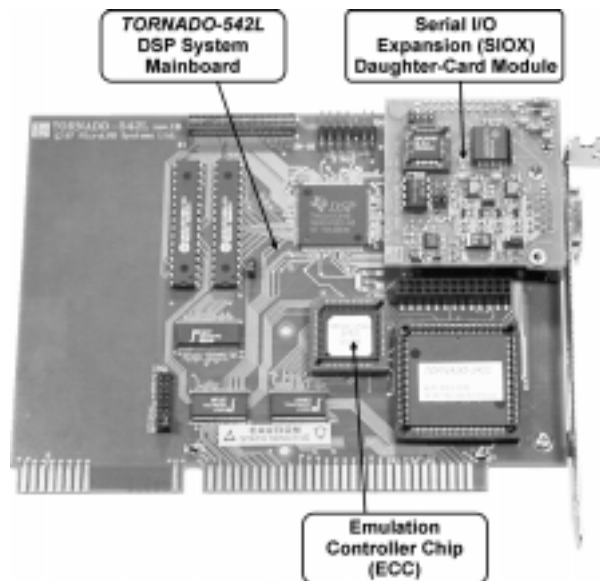

Fig.1-1.a. TORNADO-542L DSP system board with SIOX and PIOX-16 daughter card modules and ECC emulation controller.
*TORNADO-54x* DSP system mainboards install into 16-bit ISA-bus slot of host PC (fig.1-1). *TORNADO-542L* and *TORNADO-548/549* system architectures are presented at fig.2-1.